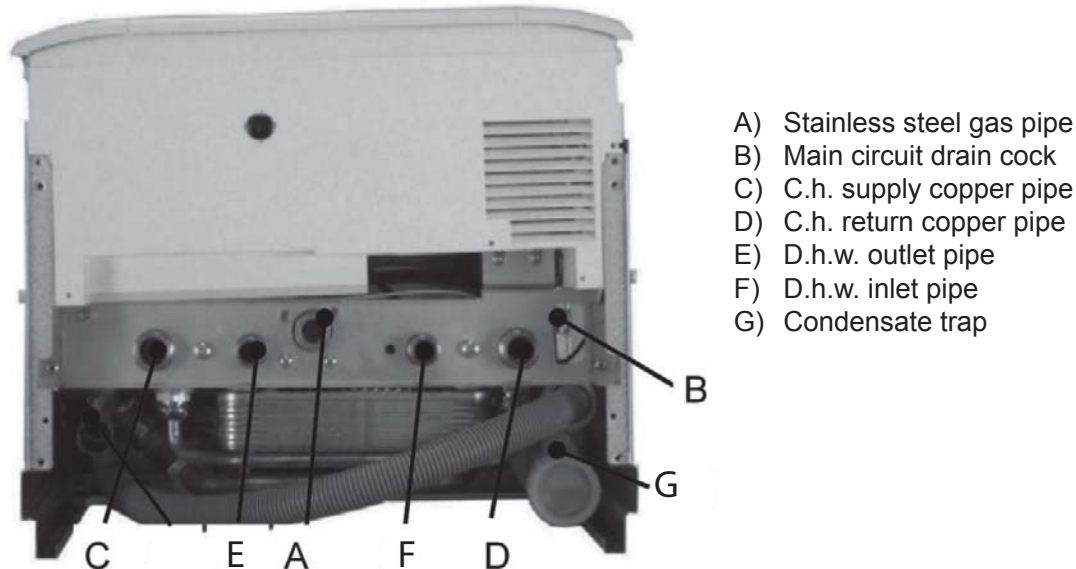

Figure 10.1
The Riva Plus Combi is supplied with a 3/4" stainless steel gas pipe (A in figure 10.1), 2 - 3/4" copper pipe (C,D in figure 10.1), 2 - 1/2" (F,G in figure 10.1) located in a plastic bag in the boiler package.
- Remove the protective caps off boiler connections (Figure 10.1).
- Attach the supplied components to the boiler connections (see Figures 10.1). Be sure to use the proper gaskets for the pipe connections. The pressure relief valve is attached to the stand pipe located in the top left rear corner of the boiler.